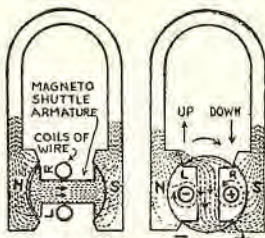
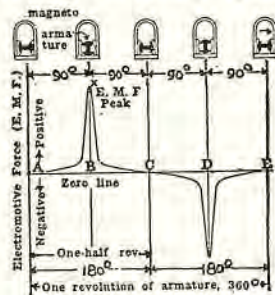
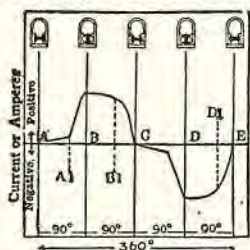

Fig. 34 Fig. 35
Fig. 40. Voltage wave.
Fig. 46. Current wave diagram
This position of wires in Fig. 33 would be represented by the position of the armature of the magneto in Fig. 34. Note that all the lines-of-force would flow through the armature core, and the wires on the armature would not be cutting the lines-of-force at all; thus the e.m.f. is "zero" value.
In explanation of this, let us refer to Fig. 40, which shows the open-circuit voltage wave. Start with the position of the armature at (A) on the left. Note that the armature is in a horizontal position and the e.m.f. (electromotive force¹) is at zero, because the lines-of-force are passing freely through the iron armature core, as is also shown in Fig. 34. Thus, at this point the wires on the armature are not cutting any lines-of-force.
Fig. 45. The armature has now turned one half-revolution. No lines are now being cut; the voltage (e.m.f.) strength is at zero. Thus we have had the positions as represented in Fig. 40; (A) to (C), where the e.m.f. was in one direction. During the next half-revolution, the same action of the wires cutting the lines-of-force is repeated, except that the (R) side of the coil will now cut up and the (L) side will cut down. In this case, therefore, the e.m.f. will be in the opposite direction during the next half-revolution, as shown in Fig. 40, (C) to (E).
The voltage wave (Fig. 40) differs slightly from the current wave (Fig. 46). The e.m.f. or voltage generated is necessary to force the current to flow.
The e.m.f. starts to build up at about 60° from (A) or at (A1), (Fig. 46), and consequently the current in the closed-circuit winding also starts to flow in a positive direction from (A) to (C) and reaches maximum when the contact points are opened at (B), or slightly afterwards.